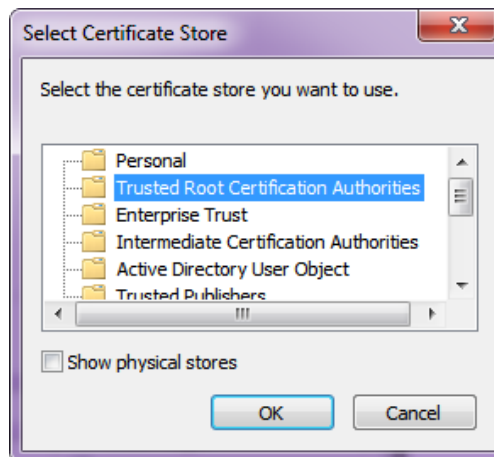

Figure 57: Select Certificate Store Location
8. The dialog shown in Figure 57 appears. Select Trusted Root Certificate Authorities and click OK.